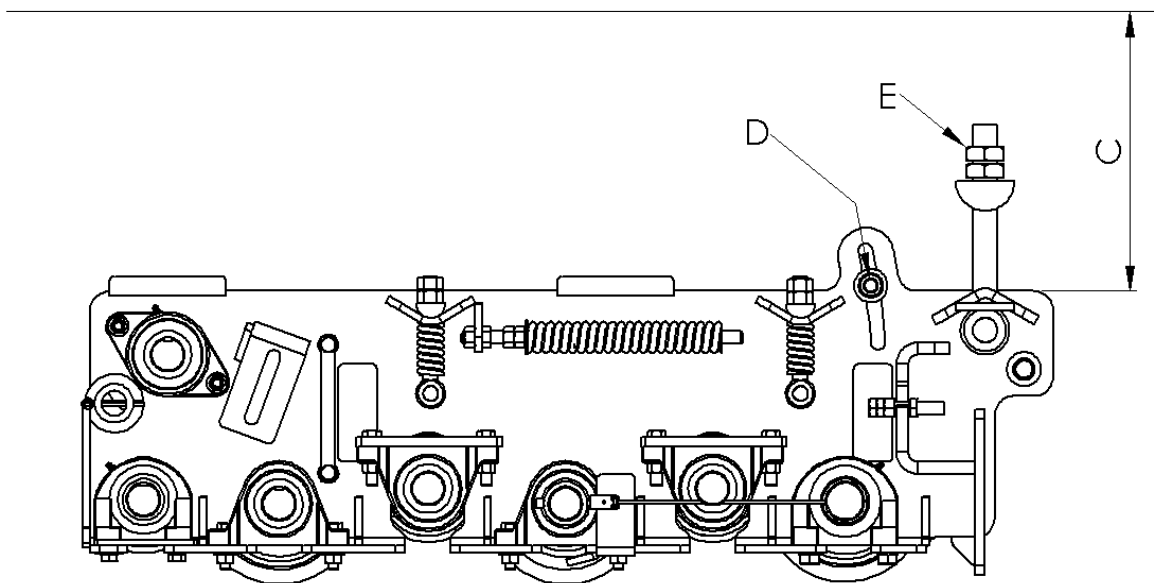

Figure 7-26: Grabroll Bed Angle
- 3. Loosen nut (D), shown in figure 7-26.
- 4. Adjust eyebolt (E) for the desired bed angle.